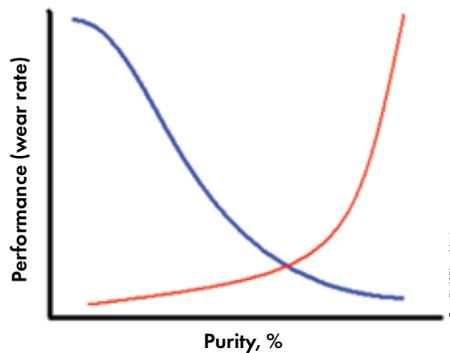

Fig. 3.6. Relationship of performance and raw material purity. The ideal is to work in the "sweet spot."
- We want to be working in the "sweet spot" between purity and price, as shown in Figure 3.6; and